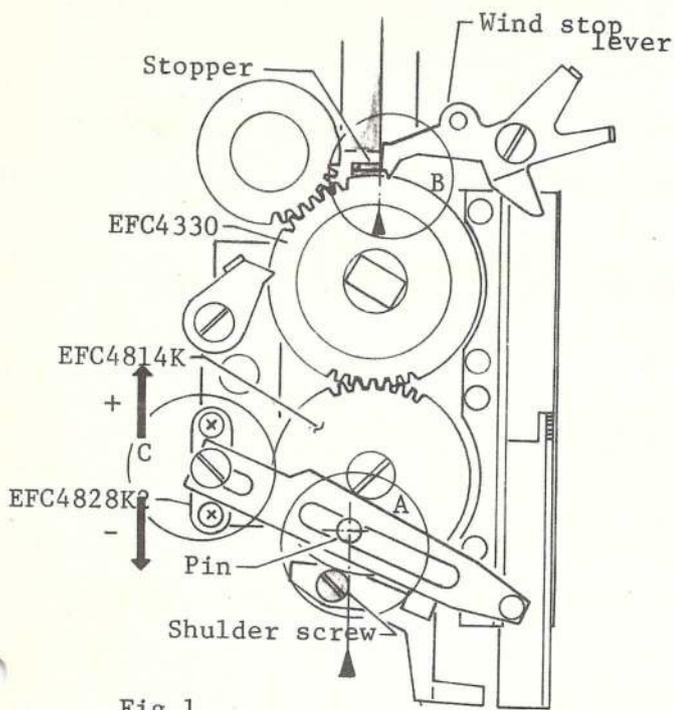

Fig.1
After turning Winding gear EFC 4330 clockwise until it stops, the correct positions of gears and relative parts are shown in the circles (A) and (B) of Fig. 1.
- b) Slide Adjusting plate EFC 4828K. Refer to the circle (C) of Fig. 1.